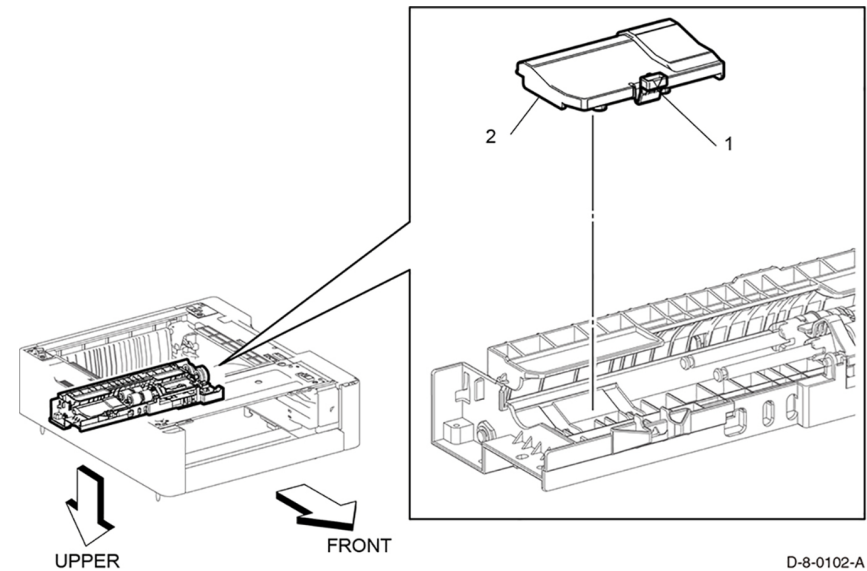

Figure 1 Upper feed chute removal
2. Release the hook (1), then remove the upper feed chute (2), Figure 1.